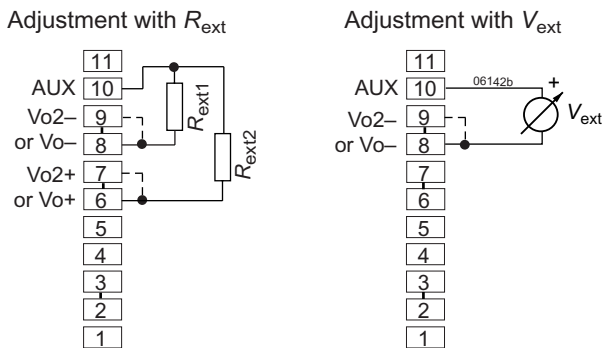

Fig. 20
Resistor R_{ext1} , connected between R (pin 2) and GND1 (pin 1) of the D-SUB connector or according to fig. 20.
Resistor R_{ext2} , connected between R (pin 2) and VCC (pin 3) of the D-SUB connector or according to fig. 20.
Note: If the R function is not included in M1 or M2, refer to figure 20 how to connect R_{ext1} or R_{ext2} .
b) Adjustment by an external control voltage V_{ext} (1.25 – 2.75 V), connected between R (pin 2) and GND (pin 1) of the D-SUB connector or according to fig. 20.